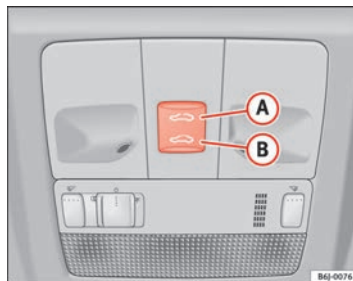

Fig. 51 Panoramic/tilting sunroof
- Press and hold button **B** ⇒ Fig. 51 ⇒ . The roof starts to close until the button is released.